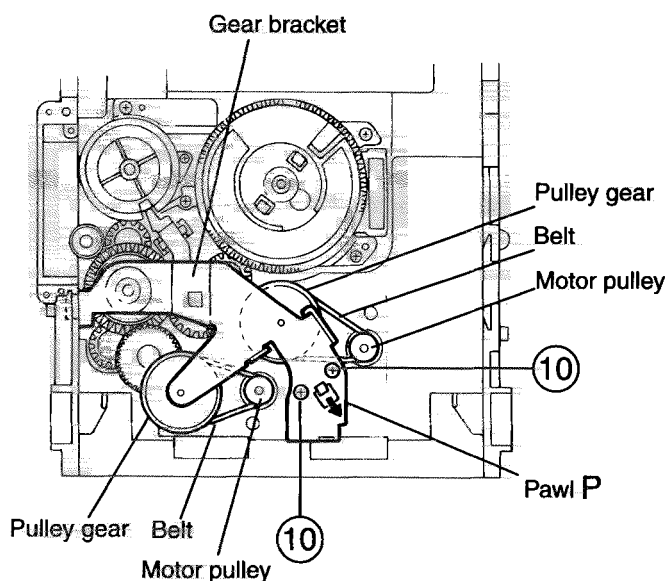

Fig.18
■Removing the actuator motor and belt (See Fig.18~21)
(See Fig.18).